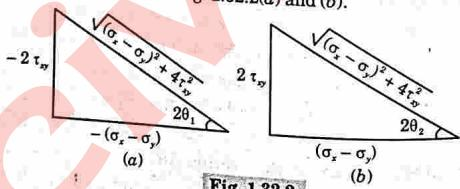

Fig. 1.32.2
10. From the above equation, we find that the following two cases satisfy this condition as shown in Fig. 1.32.2(a) and (b).